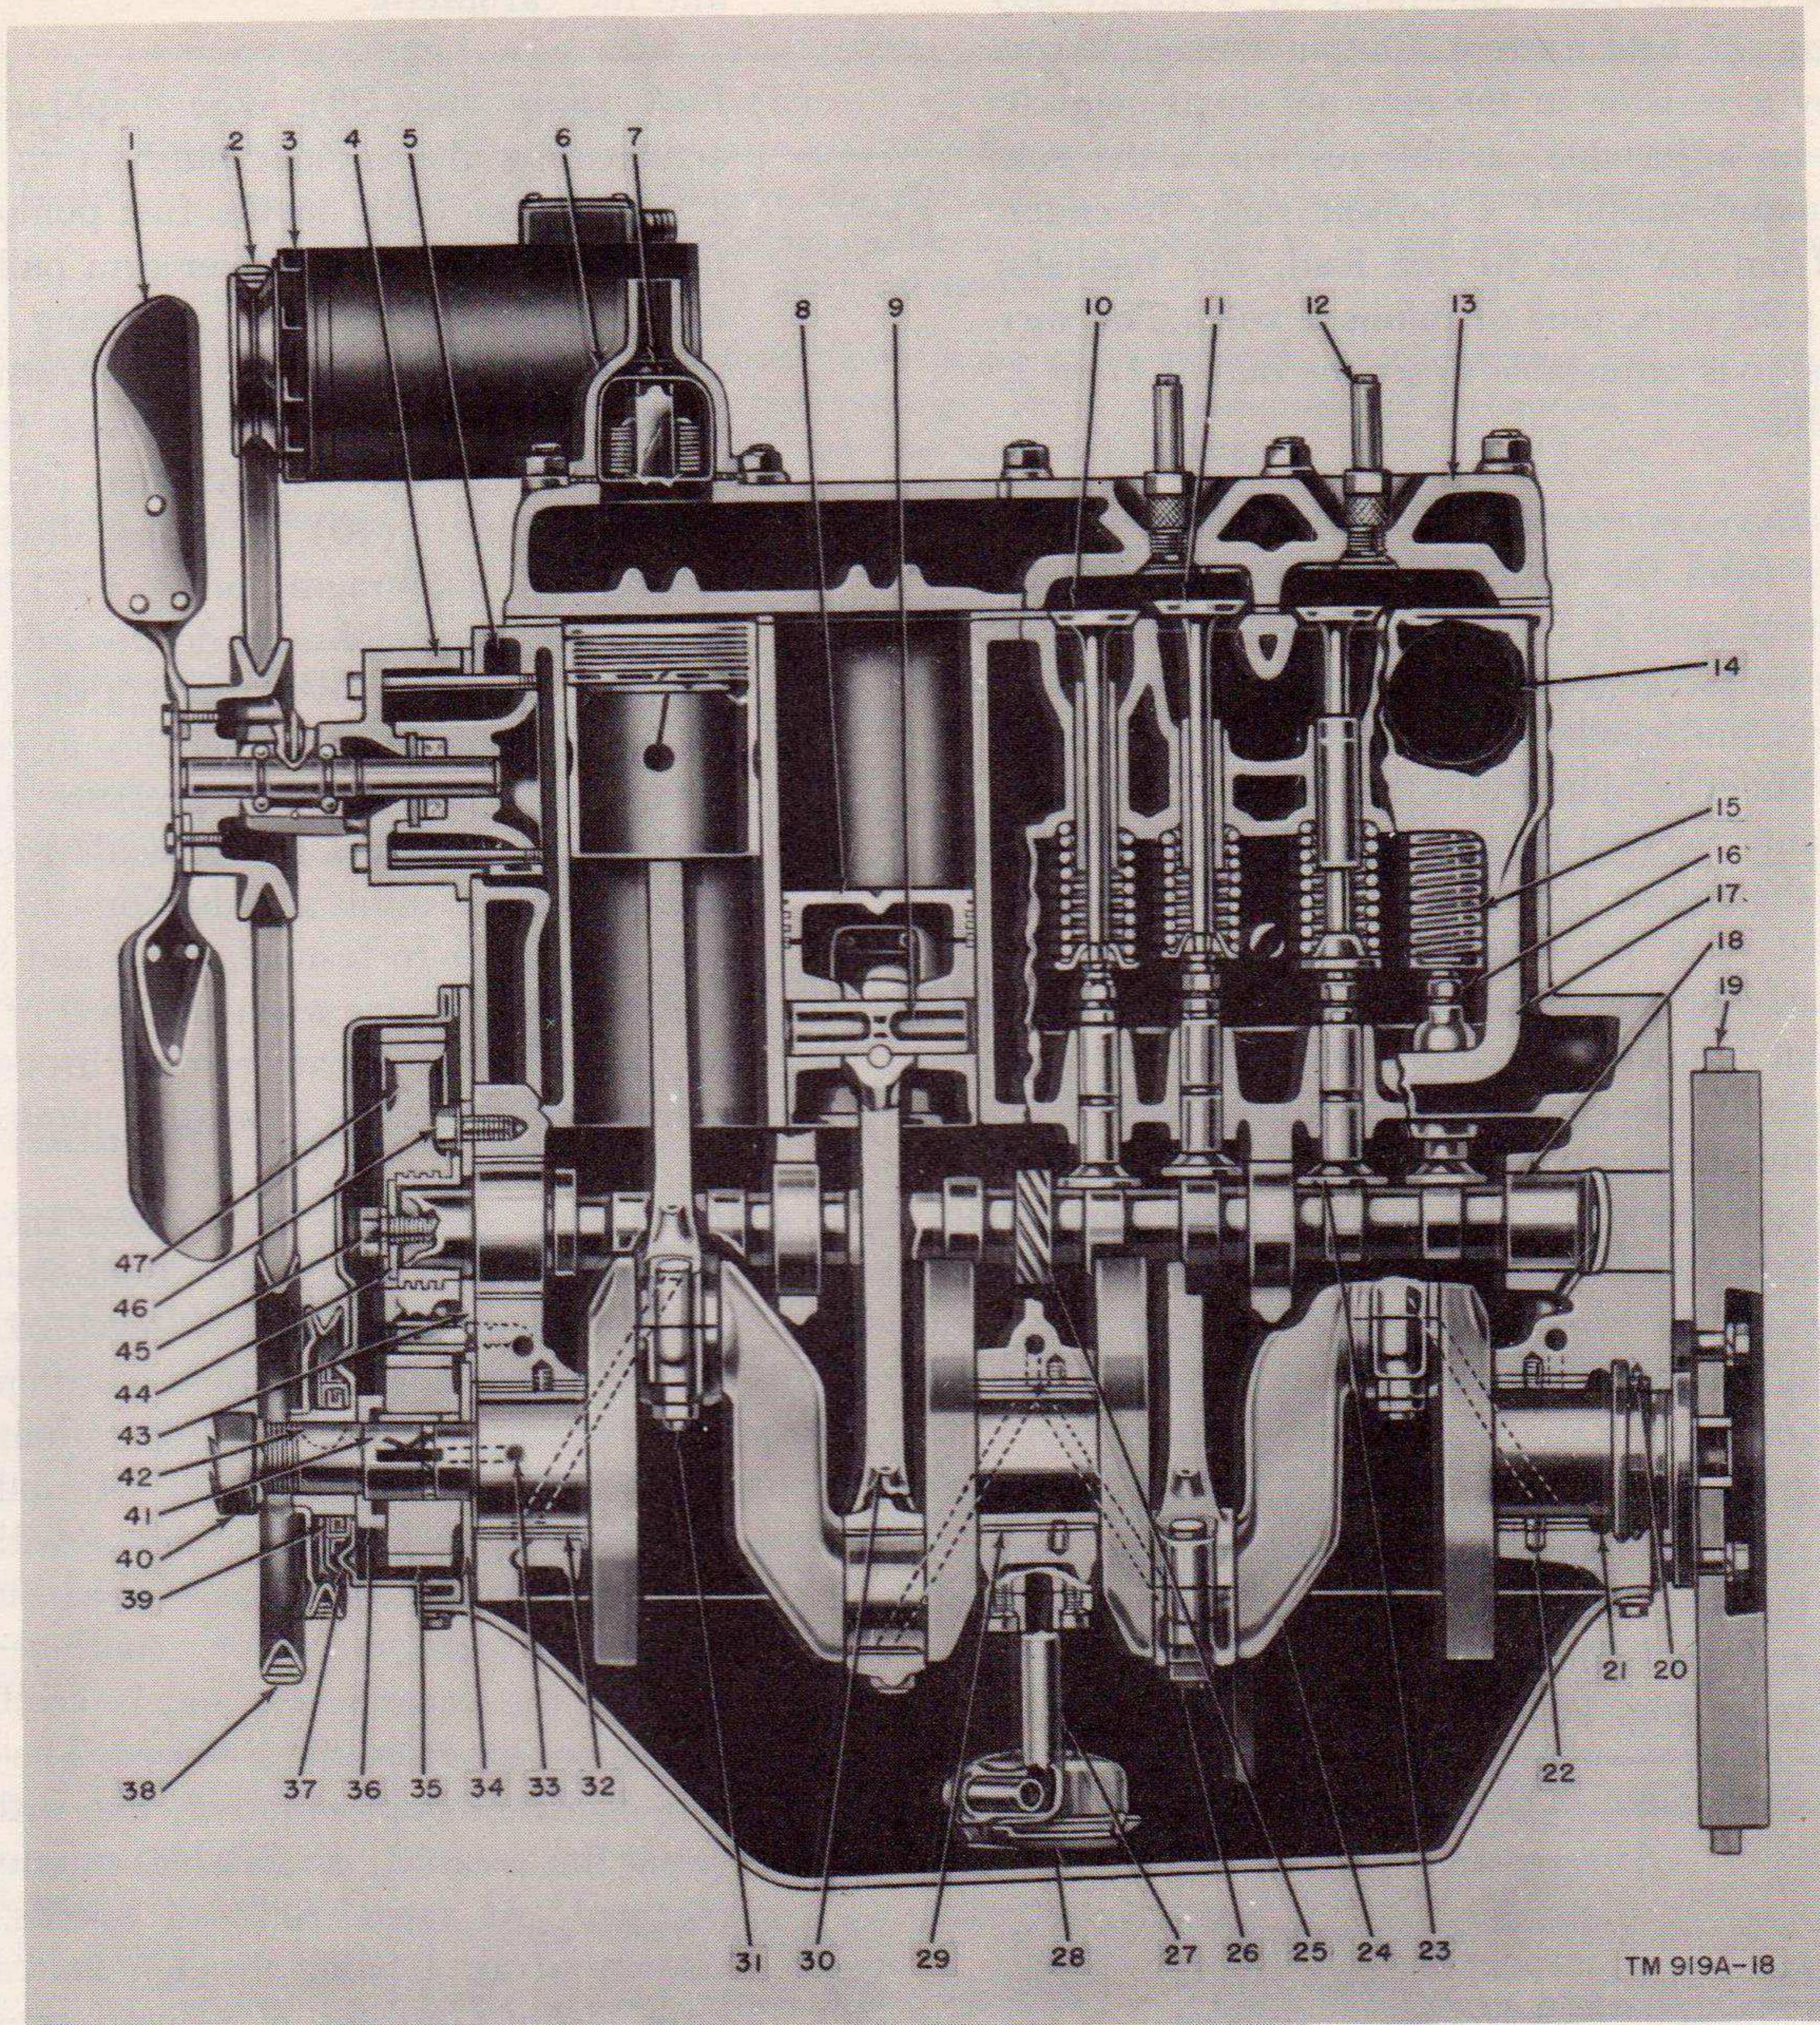

Figure 18. Engine, cross section, side view.
*a. Engine* (fig. 18). The internal combustion, four-stroke cycle engine is of the conventional automotive type. Four-stroke cycle means that there are four strokes of the piston, two up and two down, to each operating cycle. Only every fourth stroke of the piston is a power stroke. A complete cycle of one piston, with the individual operation of each stroke, is described in the following subparagraphs.
- (1) *Intake stroke.* With the exhaust valve closed and the intake valve open, a correctly metered, highly combustible mixture of air and gasoline is drawn from the carburetor through the intake manifold and intake valve port into the combustion chamber. The mixture is drawn into the cylinder as the piston travels downward, and the intake valve for that cylinder is open.
- (2) *Compression stroke.* As the piston travels past bottom dead center, the intake valve closes and with the exhaust valve closed, the fuel-air mixture then is compressed between the piston and the cylinder head. As the piston reaches the top of the stroke, the spark plug emits a spark and ignites the highly compressed fuel-air mixture.
- (3) *Power stroke.* With both valves closed, the rapidly expanding gases that result from the burning fuel mixture force the piston downward. This movement is transmitted through the connecting rod to the crankshaft which converts the reciprocating motion to rotary motion.
- (4) *Exhaust stroke.* The exhaust valve, as is